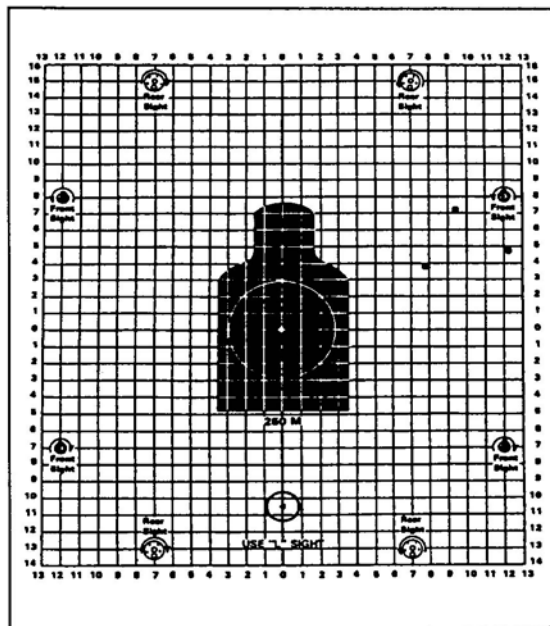
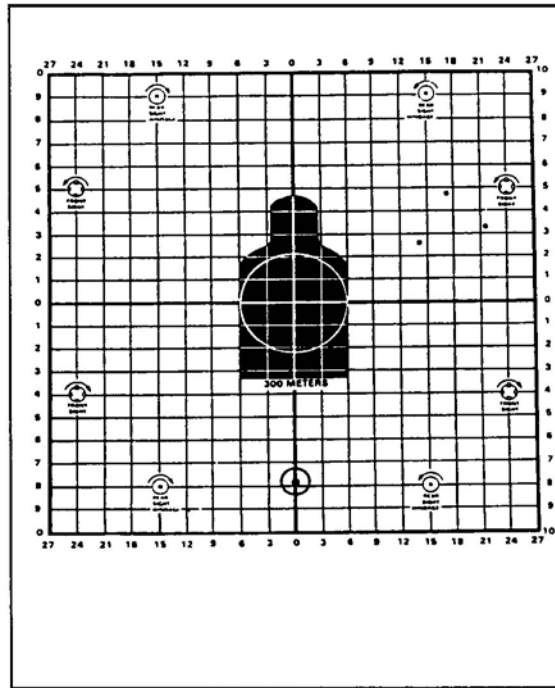

Figure 4. Sample 25-meter zeroing target for M16A1.
Figure 5. Sample 25-meter zeroing target for M16A2.
- b. Repeat Task Step 5 and Task Step 6 until the center of the shot group is 7 centimeters below the target aiming point as shown in Figure 4 and Figure 5.
- EXAMPLE: From the center of the shot group in Figure 4, move the azimuth adjustment actuator 11 clicks to the left.
- From the center of the shot group in Figure 5, move the azimuth adjustment actuator 9 clicks to the left.